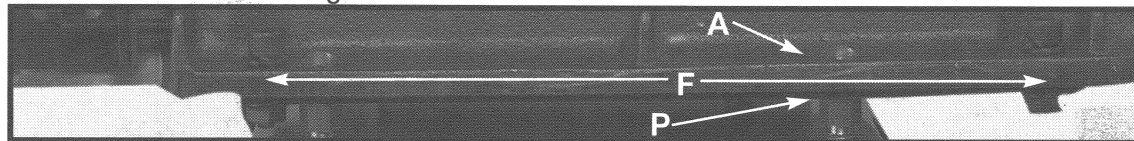

Fig. 6
3. Fasten the table assembly (A) to the support plate (P) with four 5/16" socket head screws with lock washers through the holes (D), and secure with flange nuts, two of which are shown in (F) Fig. 6. Tighten securely.